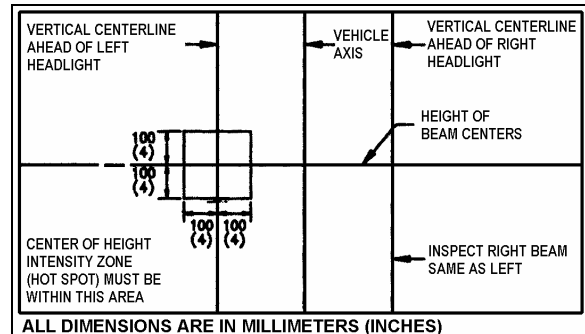

FIGURE 37: AIM INSPECTION LIMITS FOR UPPER-BEAM HEADLIGHTS 06505
7. The inspection limits for high-beam headlights shall be with the center of the high-intensity zone from 10 cm (4 inch) up to 10 cm (4 inch) down; and, from 10 cm (4 inch) left to 10 cm (4 inch) right on a screen at 7.6 m (25 ft.) (Fig. 37).